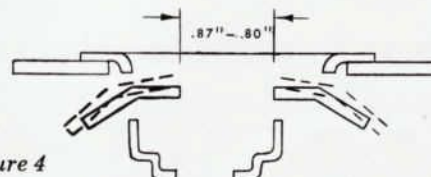

Figure 4
- Figure 4 covers adjustment procedures for the 1964-65 Thunderbird.